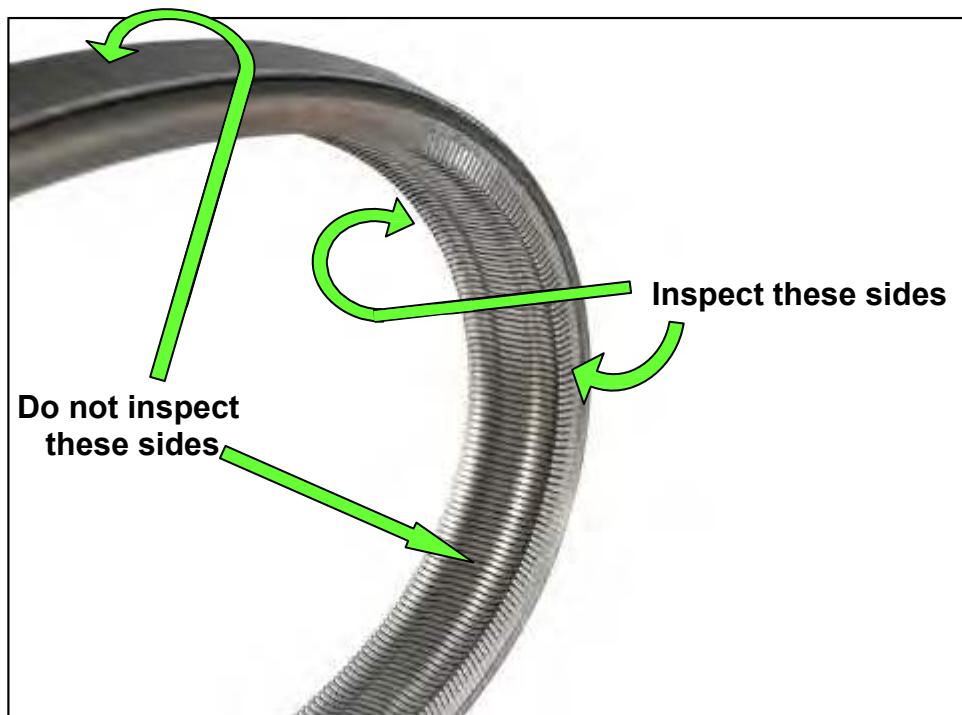

Figure 2C: New belt
2. Mark the driver's side (LH) front wheel with a suitable marking.
3. Using the steps on pages 15-21 inspect the entirety of the two sides of the belt that come in contact with the pulleys (see Figure 2C).